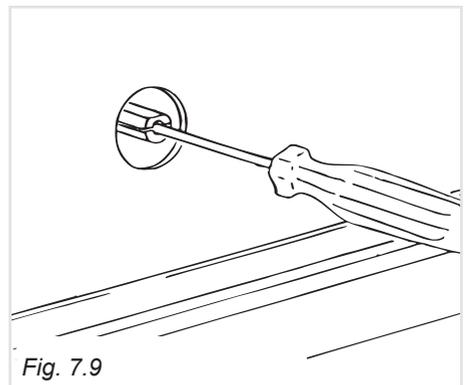

Fig. 7.9
- With a small flat screwdriver turn the screw inside the tap rod to the correct regulation (fig. 7.9).